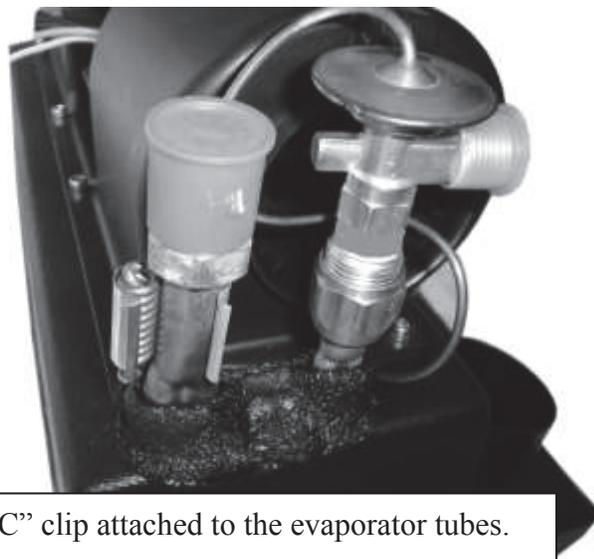
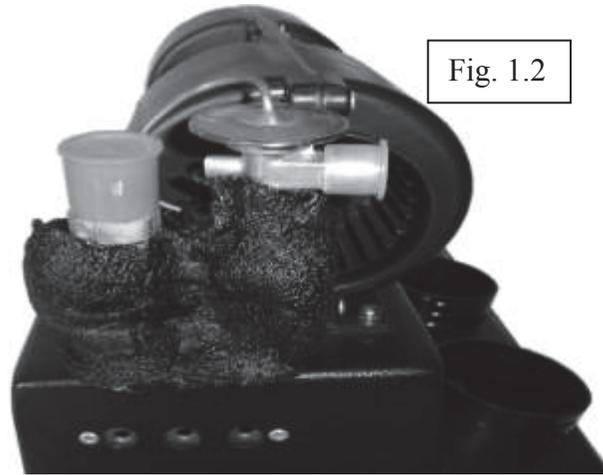

Fig. 1.1
Fig. 1.2
- 4) The expansion valve will mount to the smaller fitting on the evaporator unit. If the valve is already attached disregard this step. We normally mount the expansion valve on the evaporator prior to shipping it. The simplest way to tell if the expansion valve is mounted is by looking at figure 1.1. If the evaporator fittings are perpendicular to each other the expansion valve is mounted. If you need to rotate the valve for hose purposes make sure to recover the valve with the black cork tape after re-positioning it. If the expansion valve is mounted the evaporator fittings will look similar to figure 1.2.